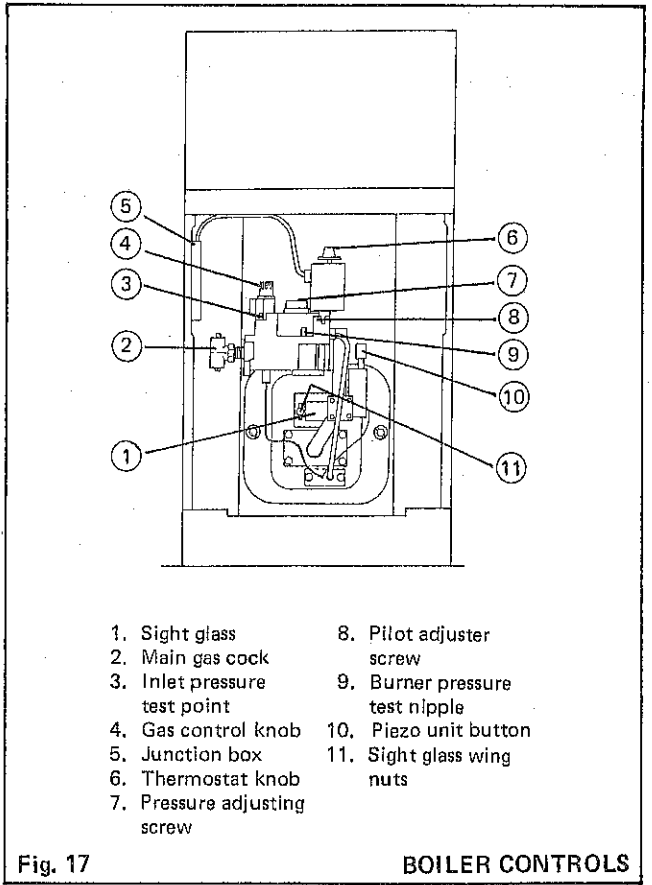

Fig. 17
INITIAL LIGHTING INSTRUCTIONS (Refer Fig. 17)
3. Check the appearance of the pilot flame and, if necessary make appropriate adjustment by use of the pilot adjuster screw, refer (8) Fig.17 – 'Initial Lighting Instructions'.
2. The pilot flame covers 10mm (3/8in) of the thermocouple tip. Turn the adjuster screw (8) — Fig.17, anti-clockwise, to increase the flame, and clockwise to decrease it.
After each occasion of servicing, reference should be made to Table 1 which quotes details of the rated output with the related burner setting pressure and heat input. Any required adjustments should be made by using the pressure adjustment screw (7) — illustrated in Fig. 17.